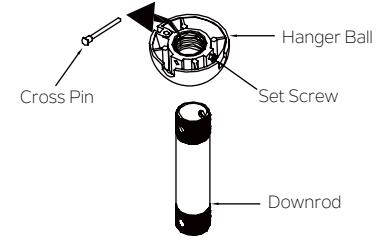

Fig. 7
Step 3. Remove the hanger ball from downrod assembly by loosening set screws , removing the cross pin, and sliding ball off the rod.(Fig. 7)